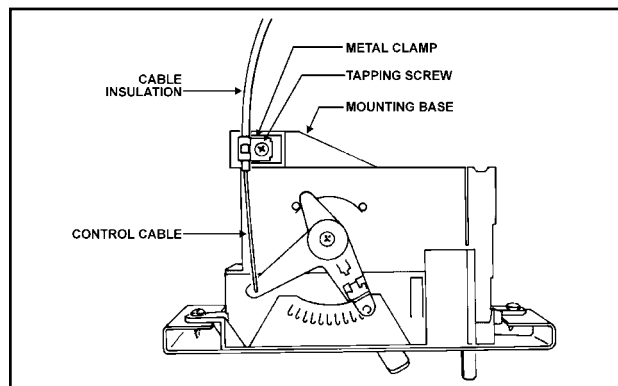

Figure 81: Removal of Control Cable
- E. Remove control cable from control panel. (Fig. 81)